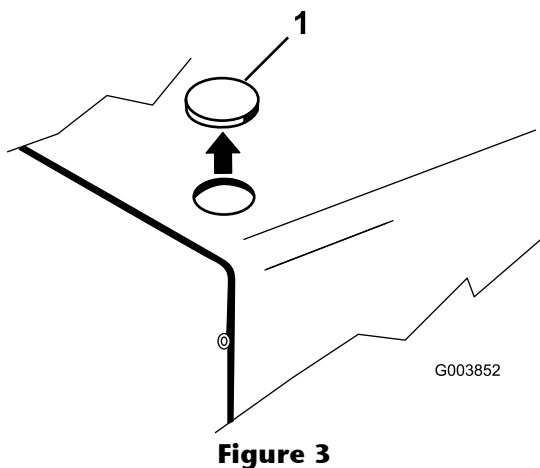

Figure 3
1. Remove the plug from the hole in the left front corner of the hood (Figure 3).